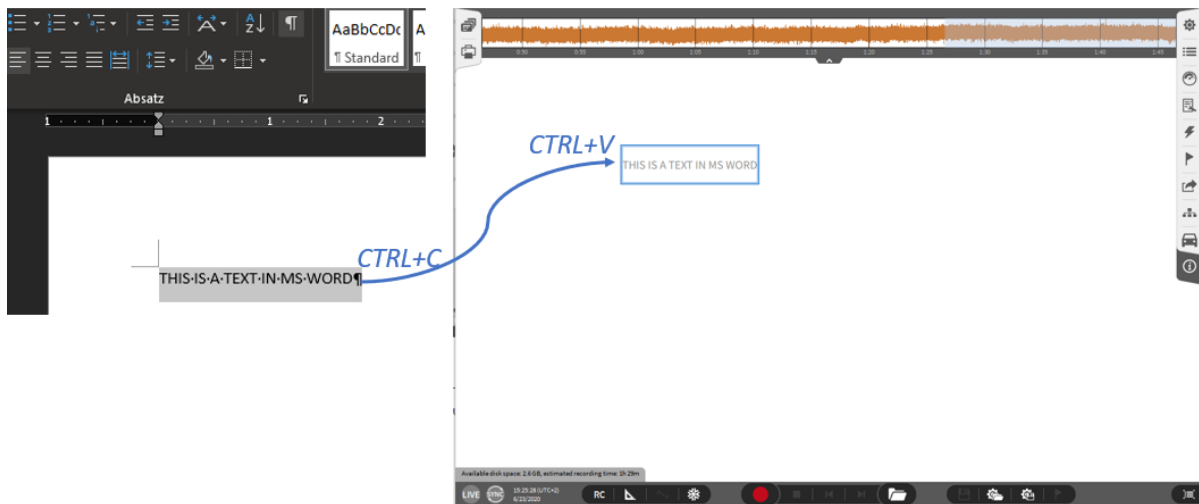

Fig. 8.33: Pasting a text to the measurement screen
**Note:** A text can also be copied and pasted directly to the OXYGEN measurement screen (see Fig. 8.33).